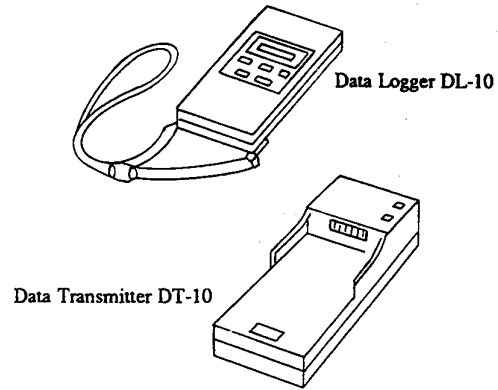

Fig. 20 Batch processing system
a. Batch processing system (Fig. 20)